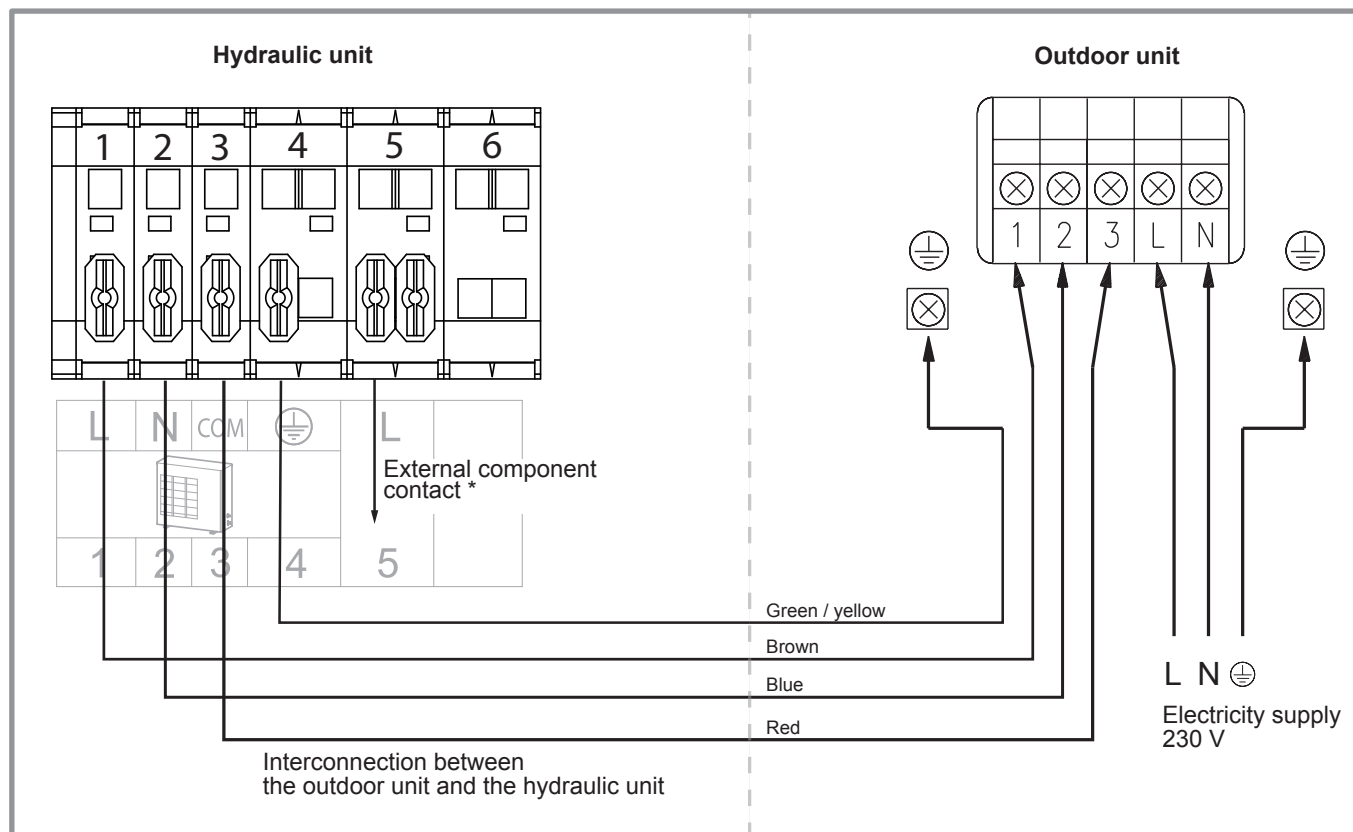

figure 40 - Connection to terminal block and power relays
- Make the connections in accordance with the diagram figure 40, page 42.